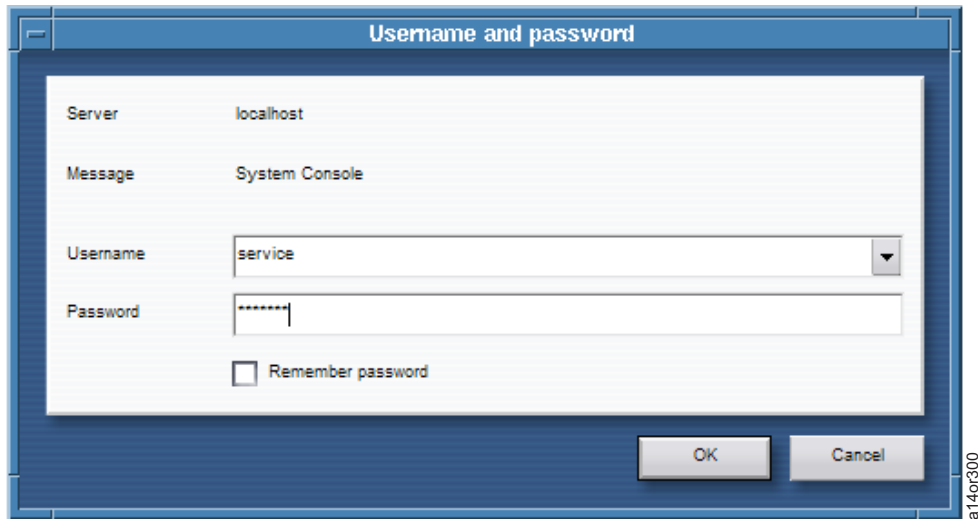

Figure 64. Login Username and Password Screen
2. From the Main Menu, select **System Console Actions > Console Configuration Utility**. You see the Username and password screen that is shown in Figure 64 on page 53.